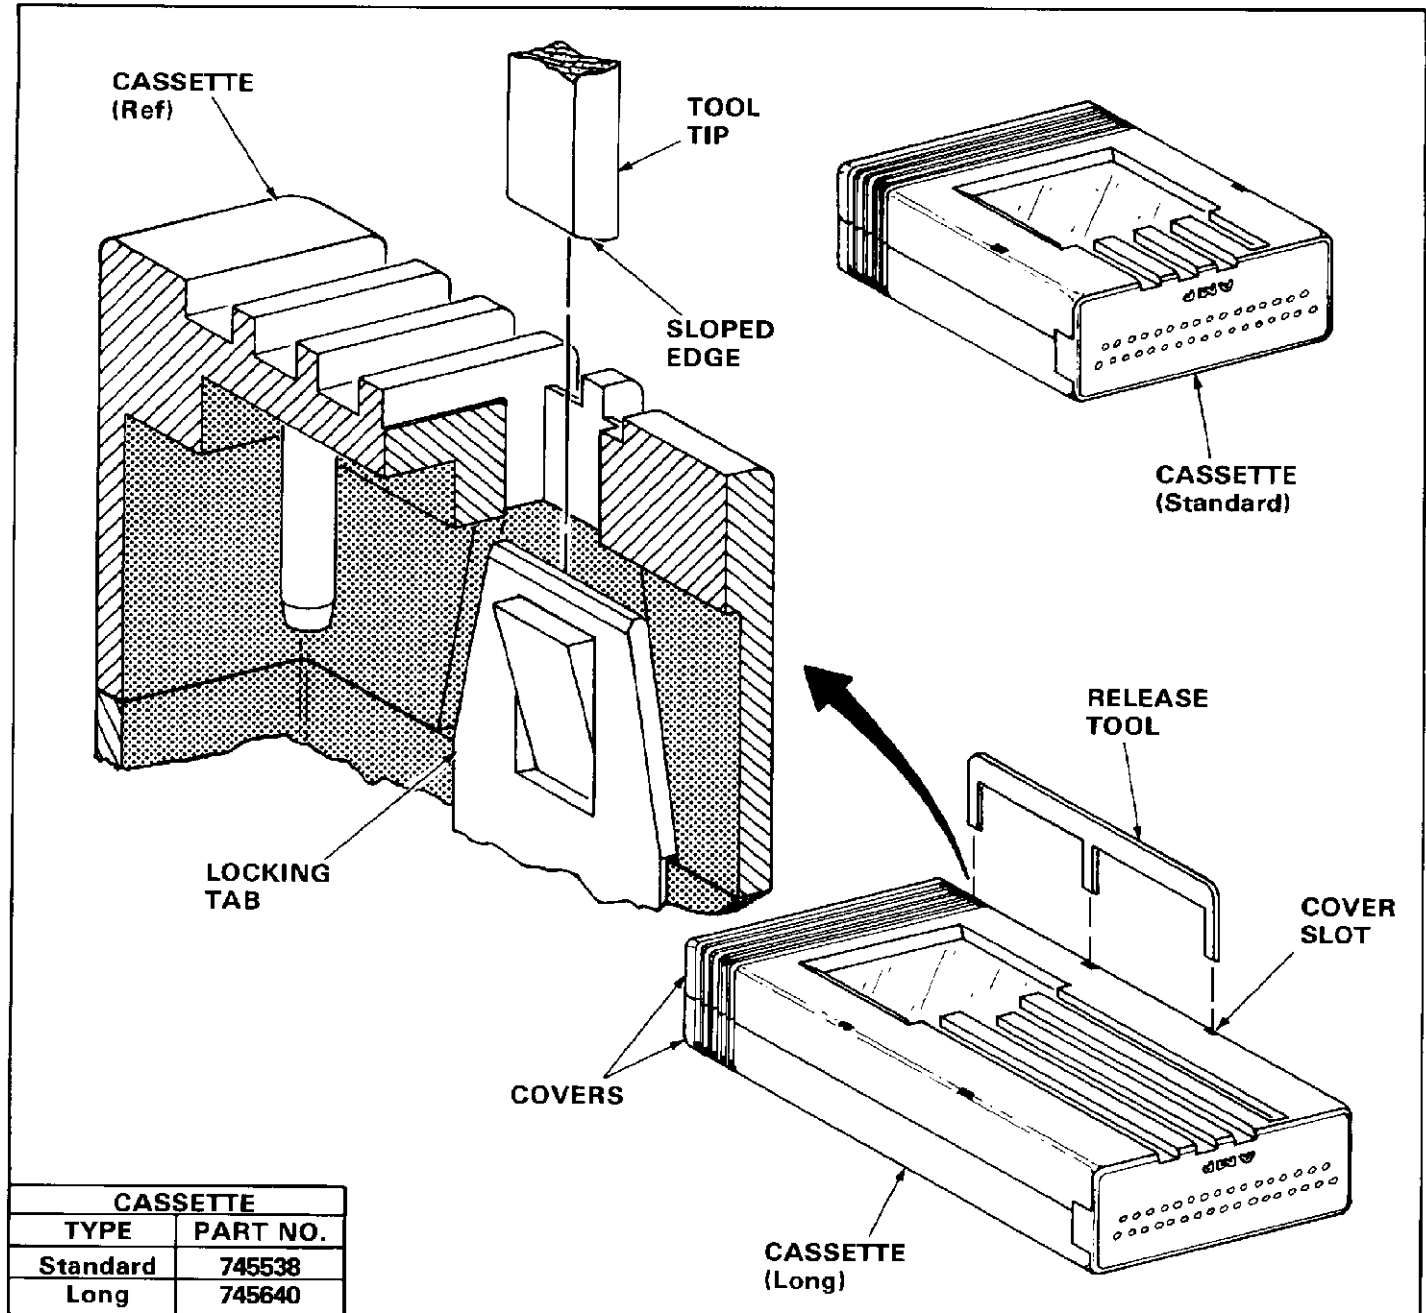

Fig. 1
This instruction sheet (IS) covers the AMP Release Tool 91251-1 which is used with AMPLIMITE Cassettes listed in Figure 1. Read these instructions carefully before using the tool.
2. DESCRIPTION (Figure 1)
3. RELEASING PROCEDURES (Figure 1)